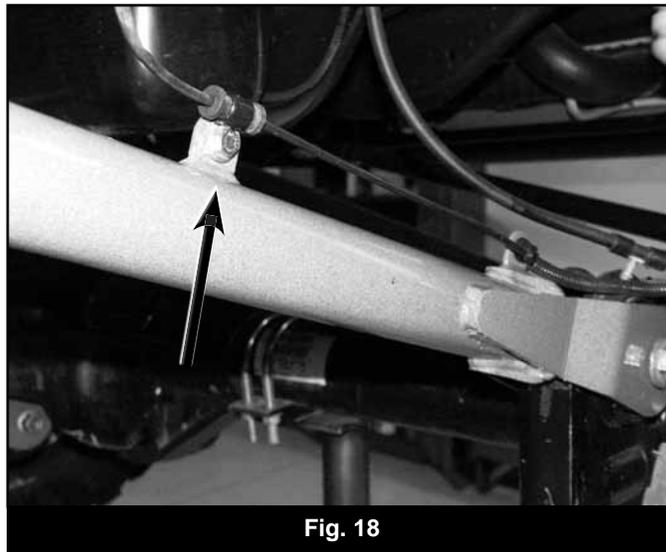

Fig. 18
43. Attach the plastic ABS wire clip to the front tab on the new upper control arm. Secure the wire to the rear tab with the provided wire clip and 1/4" x 3/4" bolt, nut and 1/4" USS washers. Torque 1/4" hardware to 10 ft-lbs. (Fig. 18)